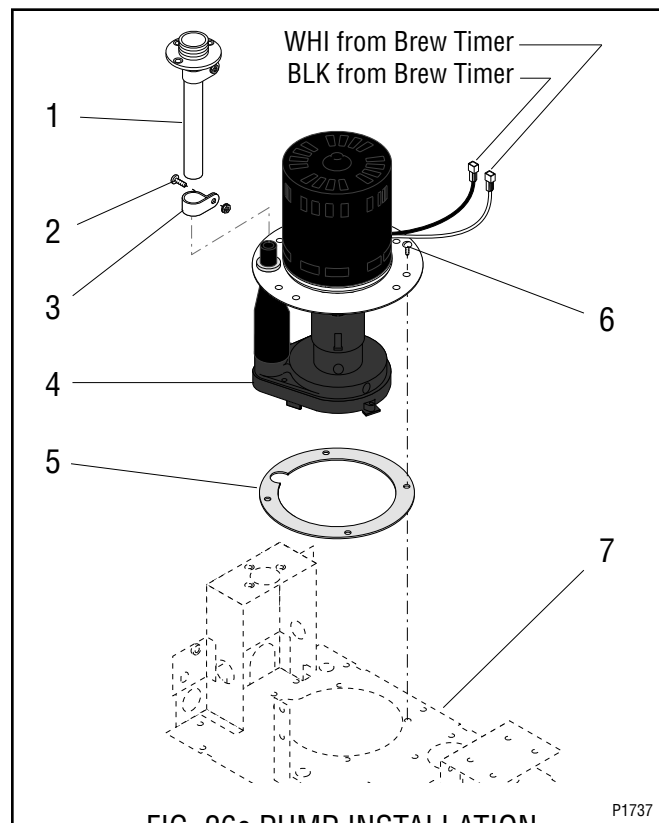

FIG. 26c PUMP INSTALLATION
2. Loosen the #8-32 screw (2) securing the clamp (3) on the fill tube (1) and slide the clamp (3) up the fill tube (1).
3. Disengage the tube (1) from the pump base (4).
4. Remove the four #8-32 screws (6) securing the pump assembly to the component bracket (7).
5. Remove pump assembly (4).
6. Remove pump gasket (5) and inspect, replace if necessary.
7. Position gasket (5) on component bracket (7).
8. Install new pump assembly on component bracket (7) and secure with four #8-32 screws (6).
9. Install fill tube (1) on pump assembly (4).
10. Slide clamp (3) down into position on the fill tube (1) and tighten screw (2).
11. Refer to Fig. 26c and reconnect the wires.